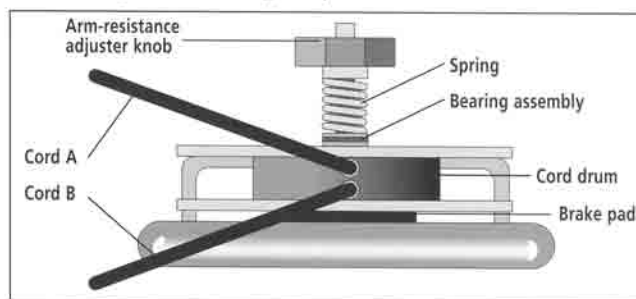

Figure 1
2. Remove the arm-resistance adjuster knob, spring, and bearing assembly from the cord drum (Figure 1, 2 or 3). Inspect the bearing. Lightly oil the bearing if it is not greasy.